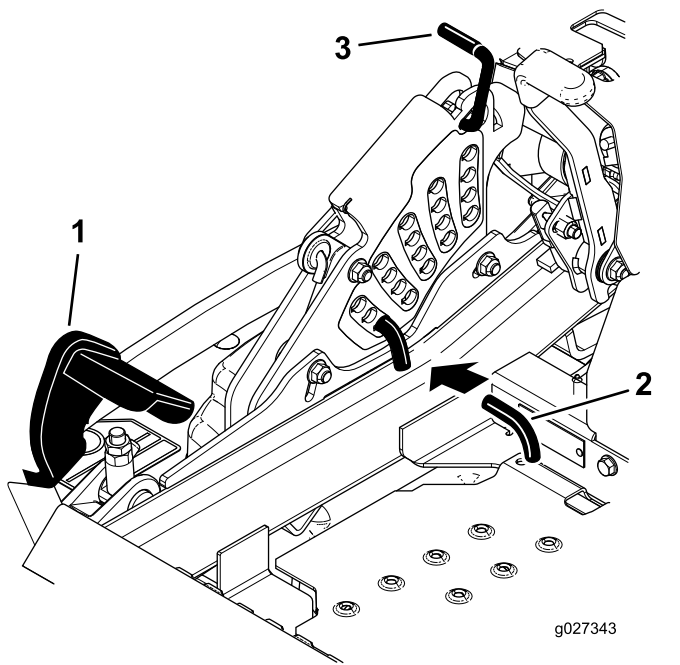

Figure 89
5. Push the deck-lift pedal all the way forward and the deck will latch at the 14 cm (5-1/2 inch) TRANSPORT position (Figure 89).